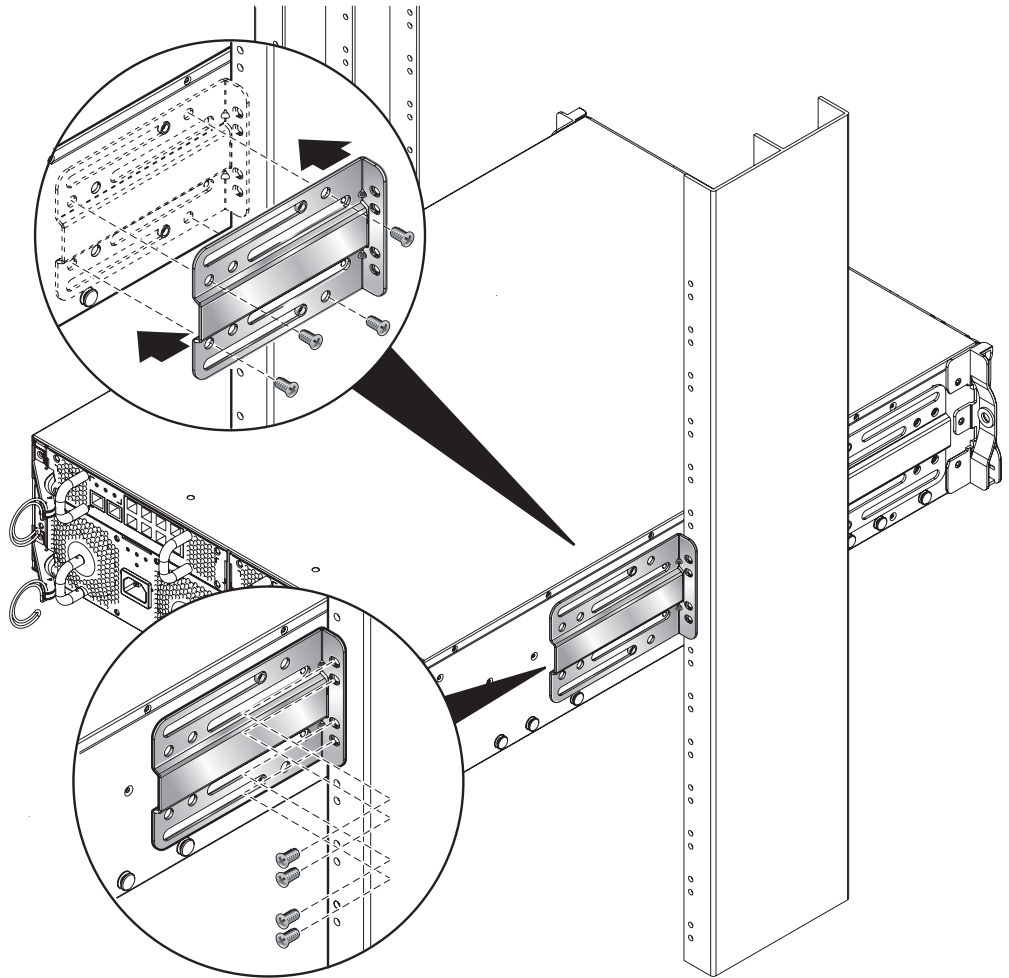

FIGURE 3-12 Attaching the Back Brackets (19-Inch, Two-Post Rack)
5. Attach the back brackets to the system chassis and to the two-post rack (FIGURE 3-12).